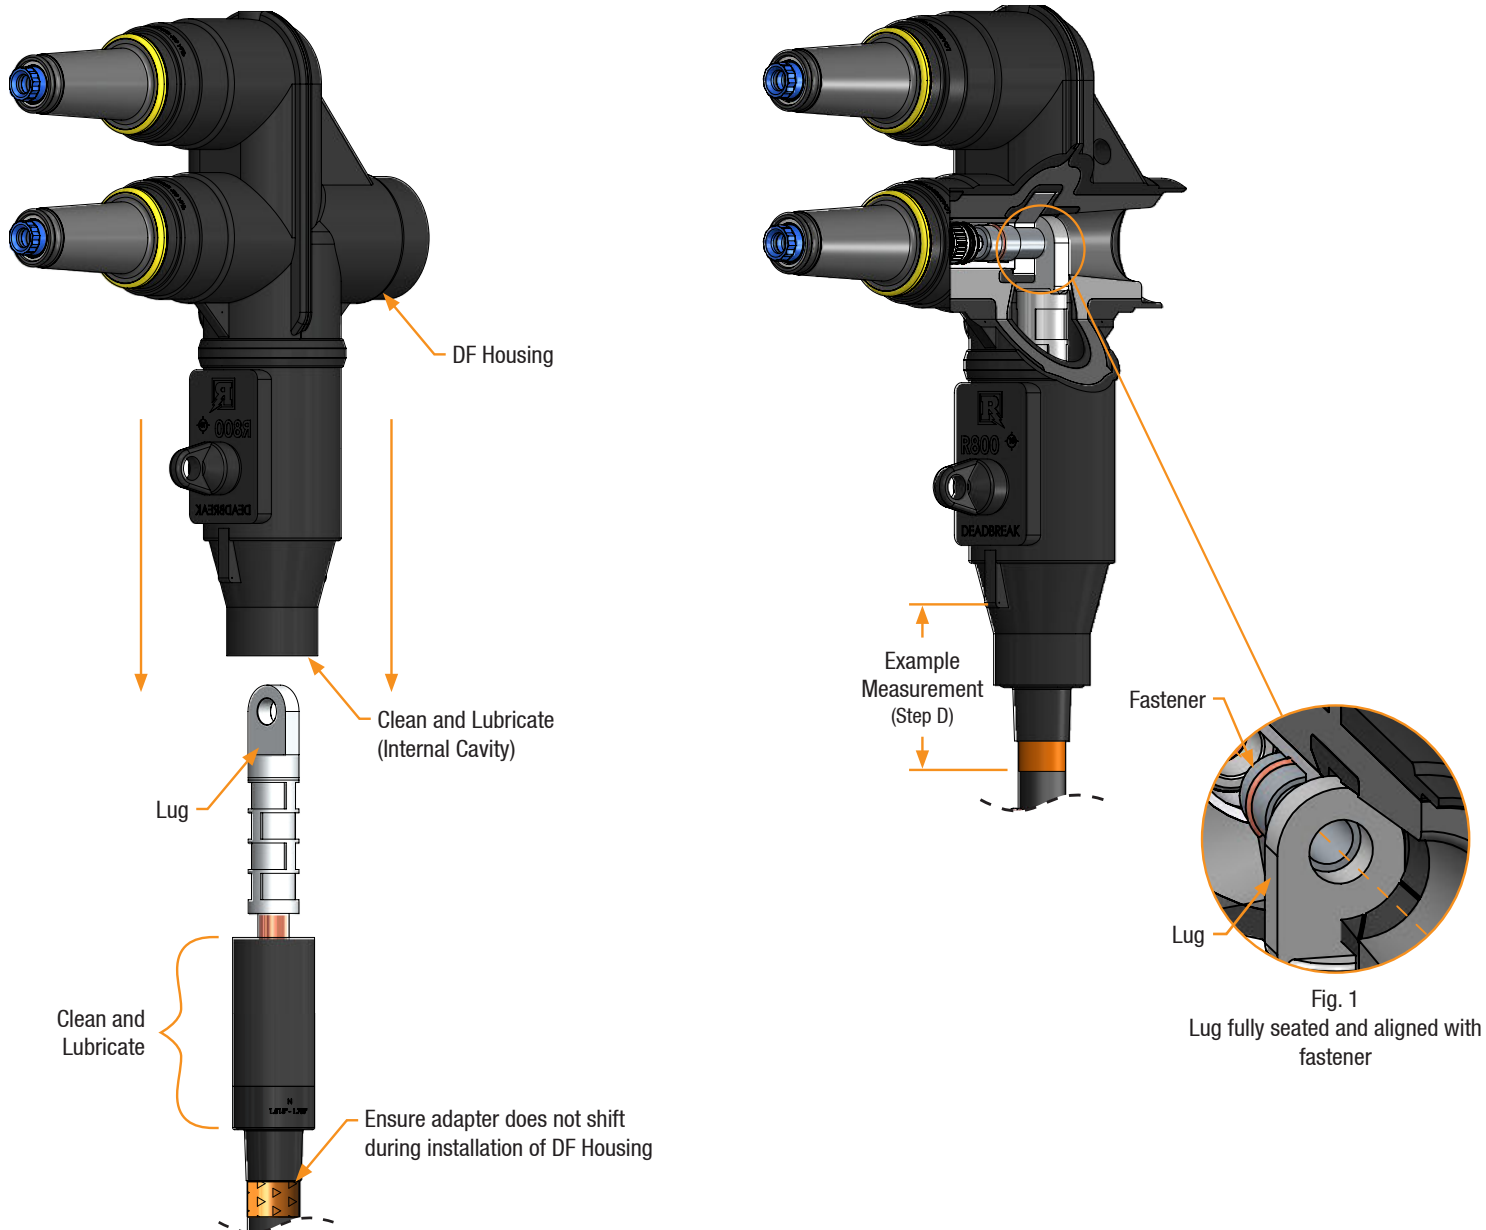

Fig. 1
- C. Visually confirm lug spade is completely seated (see Fig. 1.)